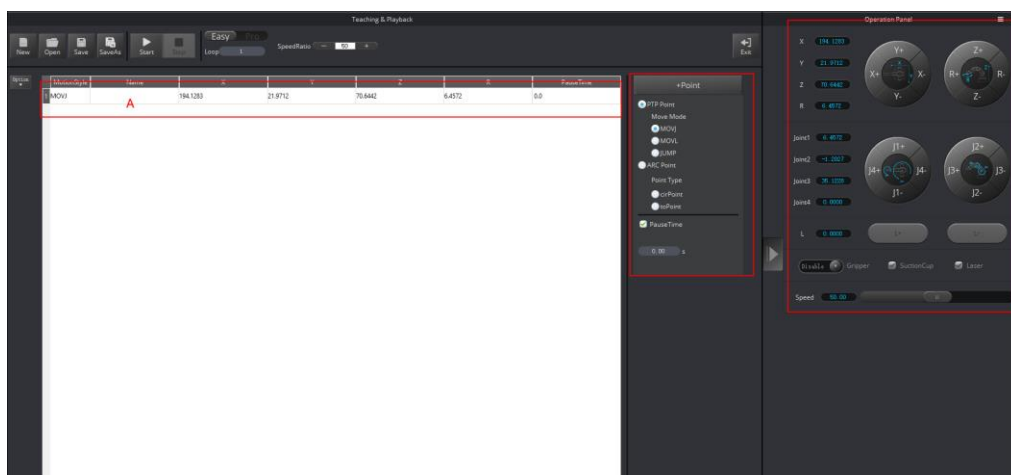

Figure 5.26 Save the start position A
8. Click **+Point** to save the coordinate corresponding to the position A, as shown in Figure 5.26.